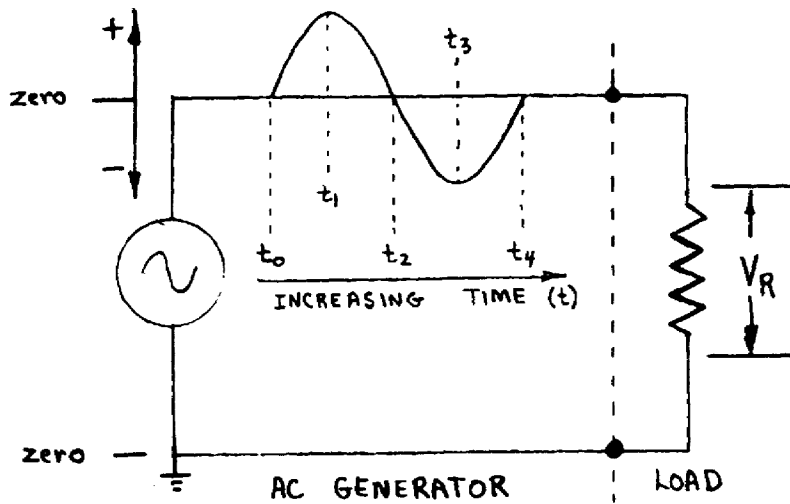
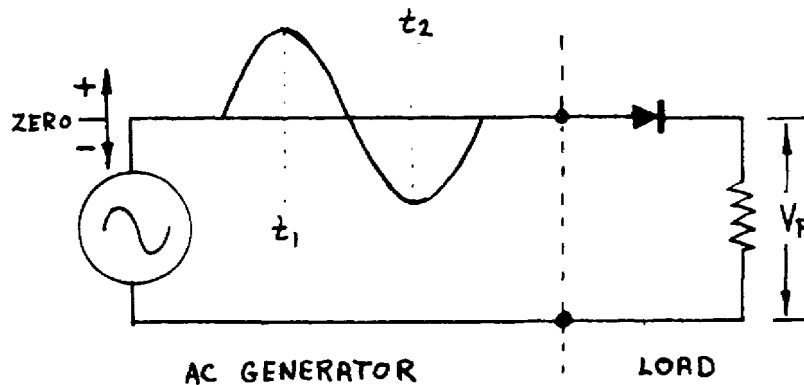

Figure 27. AC voltage.
Figure 28. Half-wave rectifier.
b. Figure 27 shows an AC potential being applied to a resistor. This voltage potential forces an electron current through the resistor. The current through the resistor allows the voltage to be developed across the resistor.
(1) At time ( $t_1$ ) the voltage with respect to ground will be positive (+) and an electron current will be flowing upward through the resistor.
(2) At time ( $t_3$ ) the voltage with respect to ground will be negative (-) and an electron current will be flowing downward through the resistor.
(3) Here we can see that the direction of the voltage is controlling the direction of electron current through the resistor. So the current first flows in an upward direction; then, as time passes, it reverses. It alternates once each cycle or revolution of the rotor.
d. Figure 28 shows an AC potential being applied to a resistor and diode connected in series. Since the voltage potential is alternating above and below ground or zero potential, the diode will experience times of forward bias at ( $t_1$ ) and reverse bias at ( $t_2$ ). The diode becomes forward biased any time after the voltage potential leaves zero and goes positive. The diode becomes reverse biased any time after the voltage potential leaves zero and goes negative.